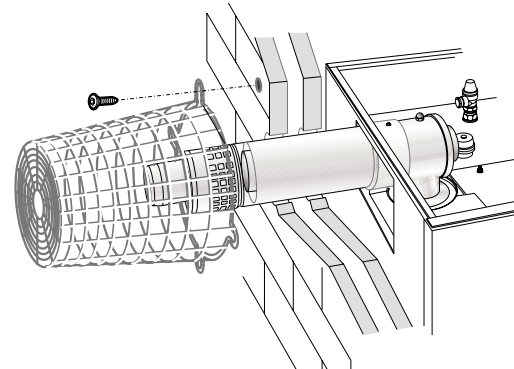

Fig. 7
19. Fit the stainless steel flue guard supplied using the stainless steel screws and rawl plugs provided (Fig. 7).